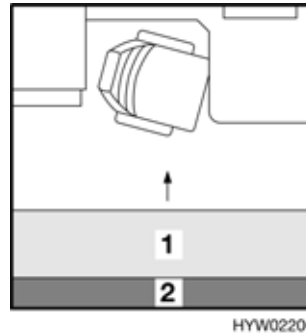

Fig. 99 Prior to conversion
- Lift the divan slightly (Fig. 99,1) and pull out as far as possible.
- Remove the additional cushion (Fig. 99,2) from the back cushion. The additional cushion is fixed to the back cushion with Velcro and can easily be separated.